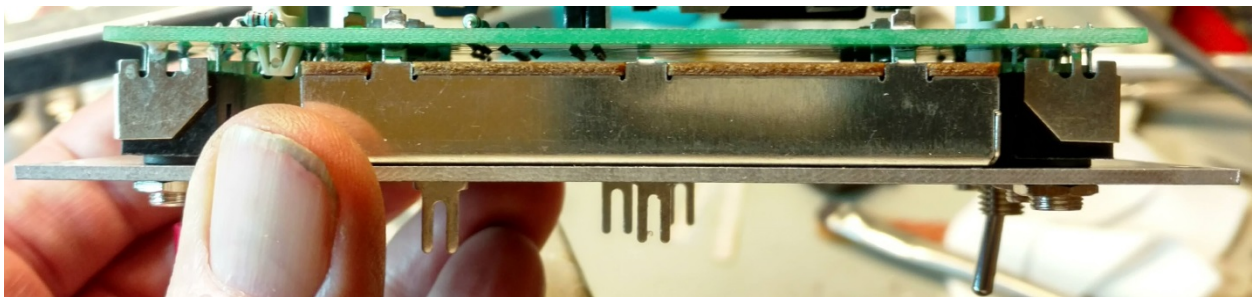

Figure 4: Panel-mounted components sit a couple mm above the PCB
- 6) Gently separate the PCB from the panel by a couple mm, keeping the sliders flush with the panel, so you have good clearance between the bottom of the sliders and the resistor and J8 leads. Keep the PCB and panel parallel to each other. (Figure 4)